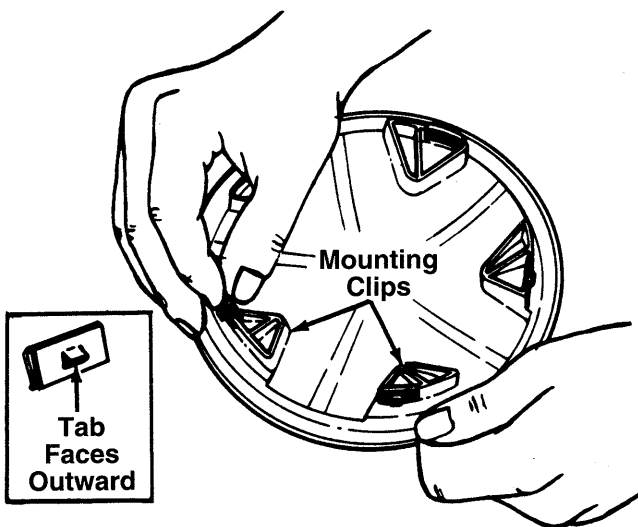

FIGURE 10.
- a. Slide five mounting clips on each hub cap as shown in figure 10, with the tabs on the mounting clips facing outward.